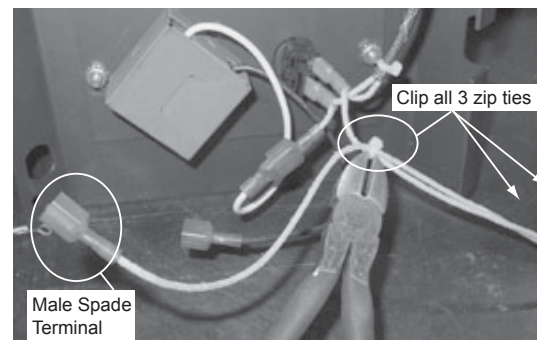

Figure 23.2
4. Identify the wire with the male spade terminal (this was originally connected to the white (neutral) lead on the power cord) and carefully clip the three small zip ties that connect it to the rest of the harness. **Figure 23.2**